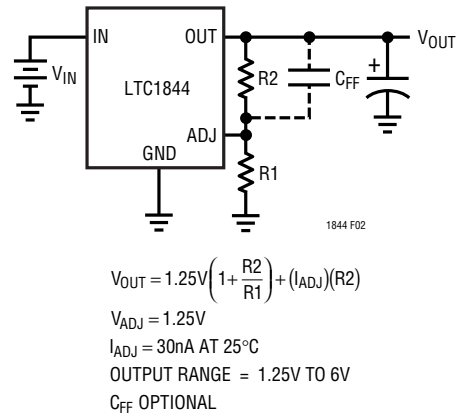

Figure 2. Adjustable Operation
**ADJ (Pin 4, Adjustable Devices):** Output Adjust. For the adjustable versions of the LTC1844, this is the input to the error amplifier. It has a typical bias current of 30nA flowing into the pin. The ADJ pin reference voltage is 1.25V referenced to ground. The output voltage range is 1.25V to 6V and is typically set by connecting ADJ to a resistor divider from OUT to GND. See Figure 2.
The adjustable version of the LTC1844 has an output voltage range of 1.25V to 6V. The output voltage is set by the ratio of two external resistors as shown in Figure 2. The device servos the output to maintain the ADJ pin voltage at 1.25V (referenced to ground). The current in R1 is then equal to  $1.25V/R1$  and the current in R2 is the current in R1 plus the ADJ pin bias current. The ADJ pin bias current, 30nA at 25°C, flows through R2 into the ADJ pin. The output voltage can be calculated using the formula in Figure 2. The value of R1 should be no greater than 1M to minimize errors in the output voltage caused by the ADJ pin bias current. Note that in shutdown the output is turned off and the divider current will be zero once  $C_{OUT}$  is discharged.
Because the ADJ pin is relatively high impedance (depending on the resistor divider used), stray capacitance at this pin can introduce significant phase shift in the error amplifier loop. The PCB layout should be designed to absolutely minimize the capacitance seen at the ADJ pin. To ensure stability over all operating conditions when utilizing large divider resistors, it may be necessary to use a small ceramic feedforward capacitor ( $\sim 1000\text{pF}$ ) in parallel with the upper divider resistor (see  $C_{\text{FF}}$  in Figure 2). As an added bonus, this capacitor will improve transient response.